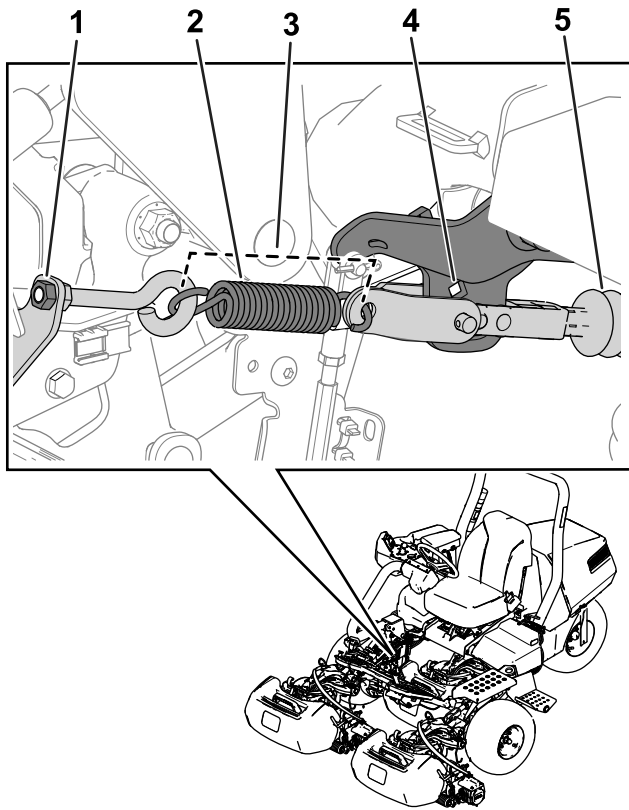

Figure 33
Note: Refer to Figure 33 for this procedure.
5. Release tension on the spring by loosening the nut that secures the eyebolt to the spring bracket (Figure 33).
3. Install the spring as shown in Figure 33.
4. Tighten the eyebolt nut so that the spring length is 11.4 cm (4.5 inches) when installed (Figure 33).